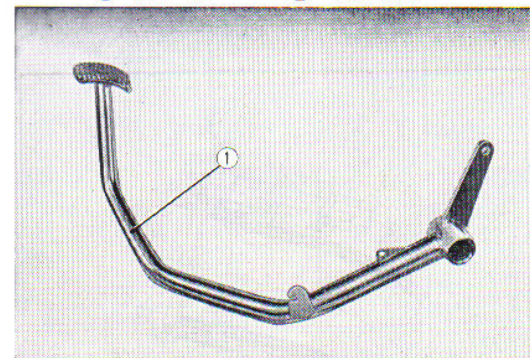

Fig. 4.49
4. Rear brake rod can be separated from the brake pedal by removing the brake rod joint pin. (Fig. 4.49)